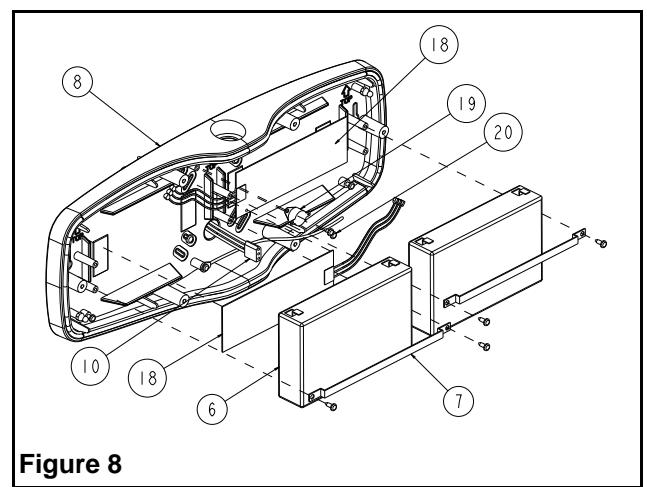

Figure 8
- b. Connect battery heater (18) to thermostat (19) and to AC harness (10) (see figure 8).